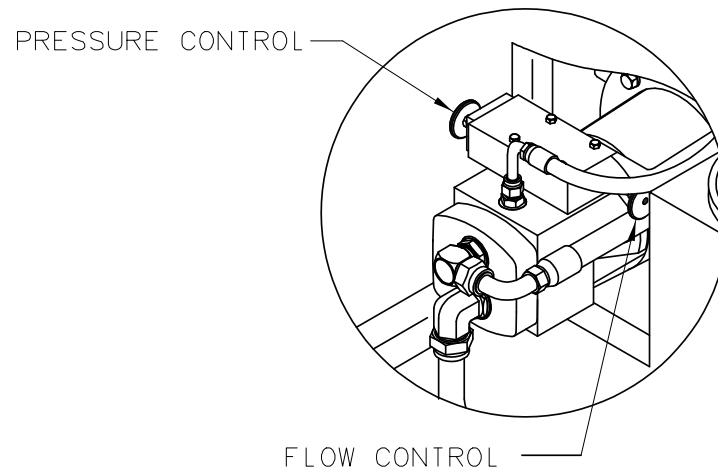

FIGURE 6.3.5 – Hydraulic Pump Controls
- Pump Control Access..... See **Figure 6.3.5 – Hydraulic Pump Controls**.